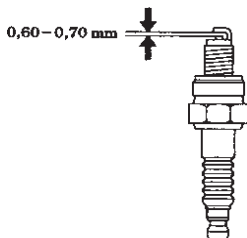

Fig.11
1. Maintain the spark plug (as shown on the Fig.11):